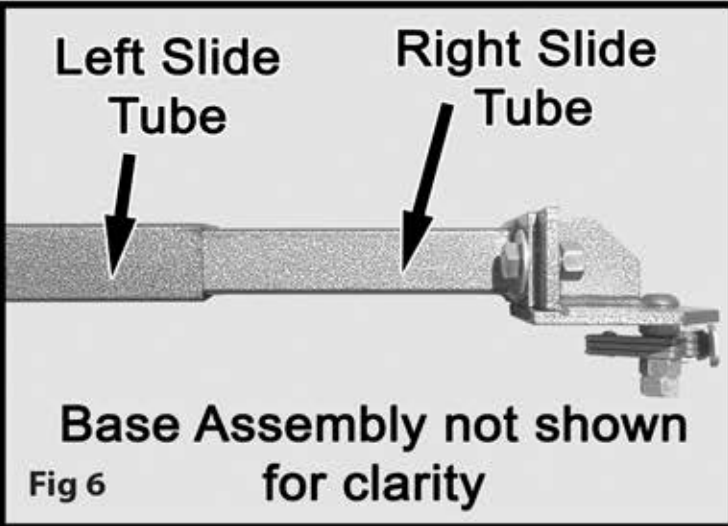

Fig 6
- Slide both Slide Tubes into the Base Assembly. Note the Right Slide Tube fits inside the Left Slide Tube (Fig 6)